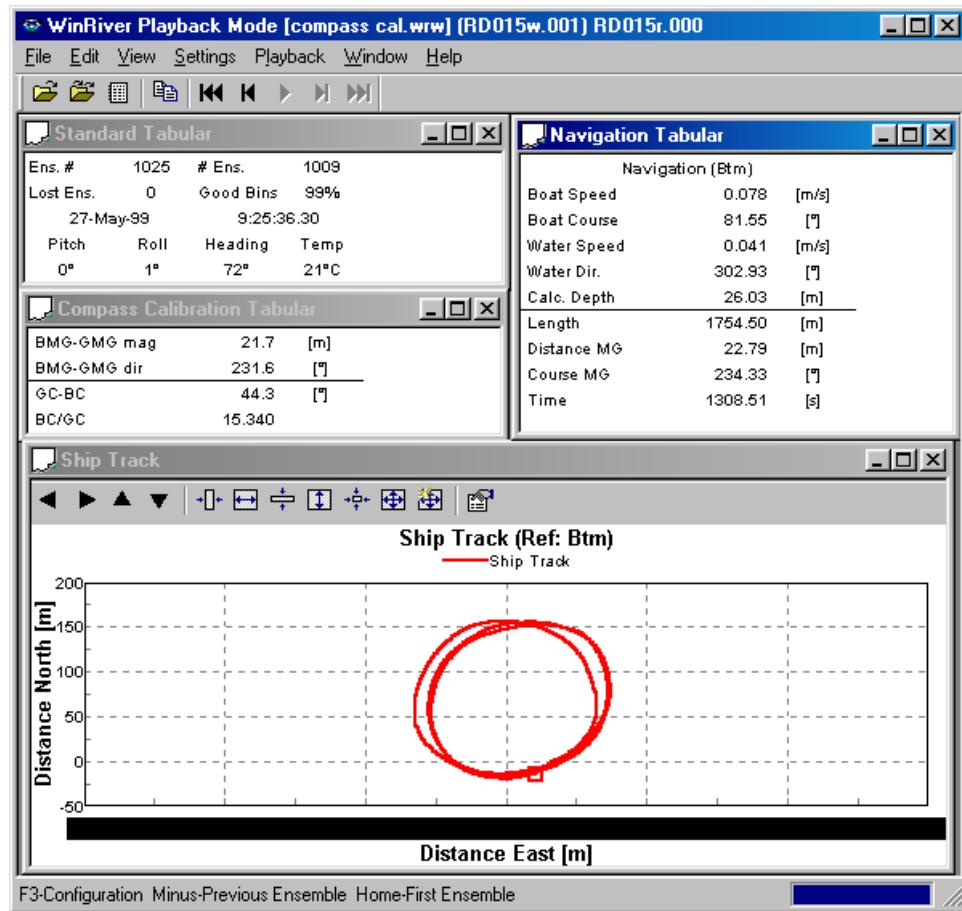

Figure 25. Method 1 Compass Correction Procedure
- f. Drive in a circular course with a circumference of about 1000 meters or larger (as large as possible). It is important to make a large circular track to make a good estimate of the one-cycle compass correction factors, and it is also important to make the path as close to a true circle as possible. Use the **Ship Track** screen to help make the circular course at a slow steady speed. If your location does not allow you to run a large circular course, you can run several continuous circles (say 3 to 5) being sure to pass your original starting point as you complete each circle. You would then use the combined course length from all of the circles in determining the one-cycle errors as described in the following steps. In Figure 25, page 71, three circular tracks were made to provide a total track length of 1754.50 meters.
- h. Record the **Course MG**, **Distance MG**, and **Length** values in the **Navigation Tabular** display. For example, in Figure 25, the **Course MG** is 234.33°, the **Distance MG** is 22.79 meters, and the **Length** is 1754.50 meters.